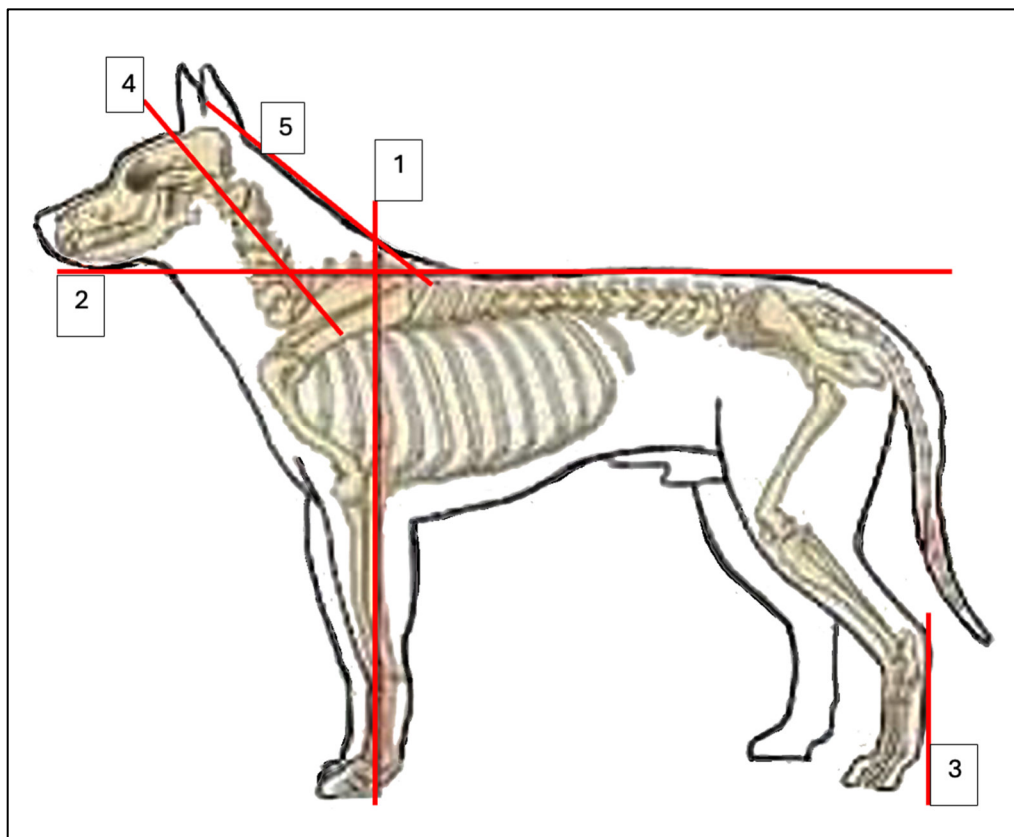

Figure 3
- The forearms (elbow and radius) of the dog are exactly vertical when viewed from the side (Figure 3 - 1).
- The lower jaw should align with the top line of the back. (Figure 3 - 2).
- The lowest vertical part of one hind leg (or the lowest straight part of both hind legs) must be exactly vertical when viewed from the side (Figure 3 - 3).